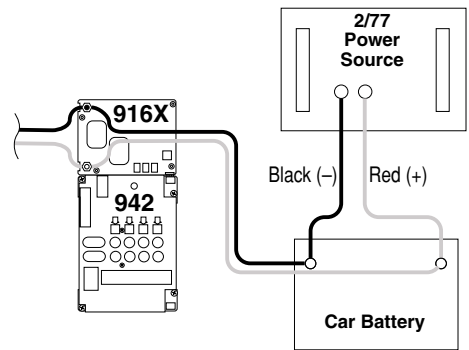

Figure 42. Install the optional car battery between the power supply and the DC distribution system.
- B. Turn off the power supply. Disconnect the red and black battery leads you connected to it for initial testing and connect them to the red (+) and black (-) battery terminals (see Figure 29 and Figure 42).